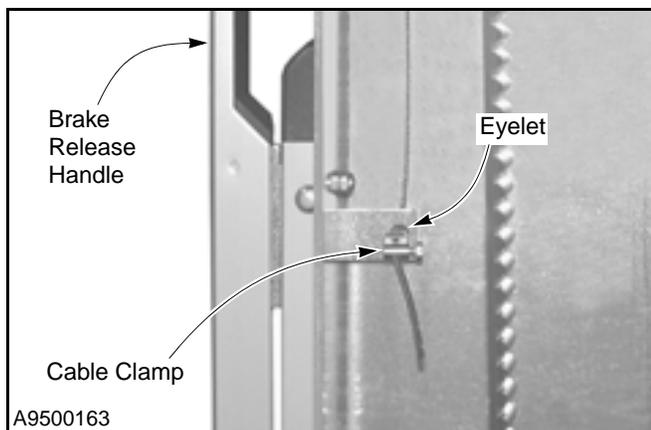

Figure 26
3. Make sure the brake release handle is in good, working order and securely fastened to the left-hand side column. Replace any missing or damaged hardware as required. (See Figure 26.)
6. Inspect the cable clamp on the lower end of the cable to ensure it is securely fastened to the brake release handle. (See Figure 26.)